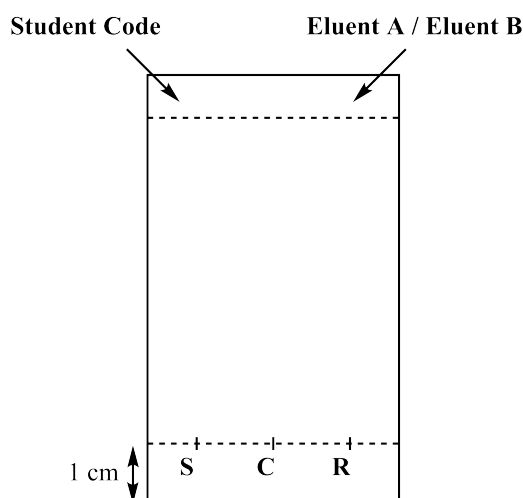

Figure 3. TLC plate preparation
3. **Prepare your TLC plate.** Use a pencil to **draw** carefully the start line (1 cm from the bottom of the plate) and **mark** the positions of the 3 samples. **Label** them **S** (Starting material), **C** (Crude product) and **R** (Recrystallised product), as shown in Figure 3. On the top left of the plate, **write** your **Student Code**. On the top right of the plate, **write** the solvent you use (first **Eluent A**, then **Eluent B**). **Spot** the three samples on the plate, using the capillary spotters.